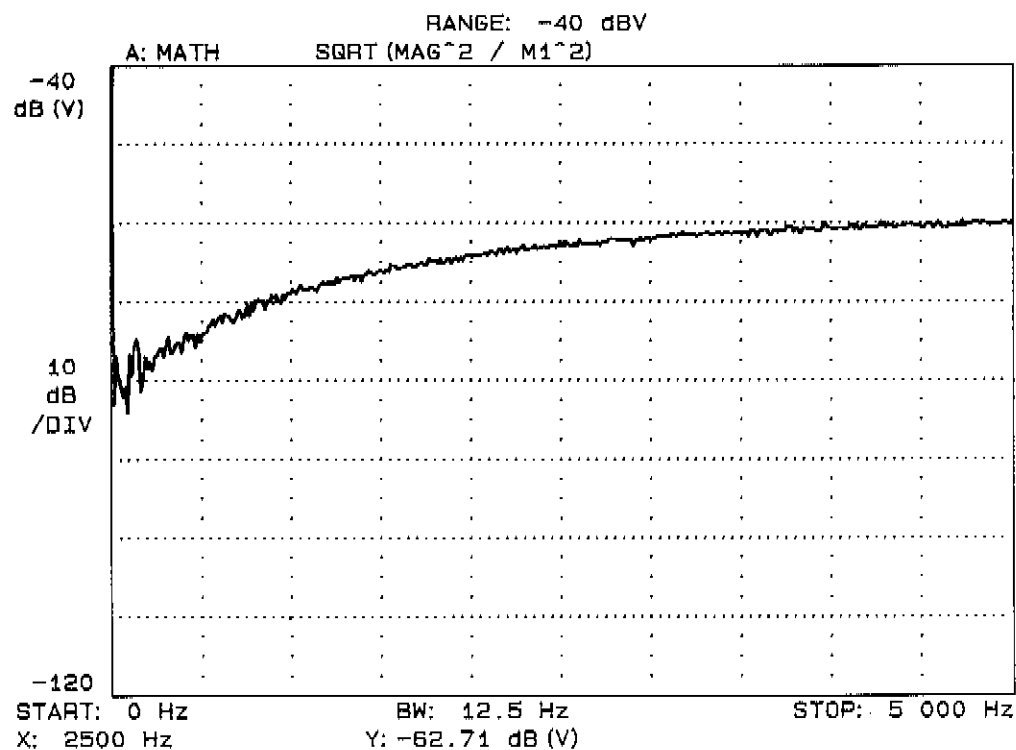

Figure 15. Typical Ground Isolation Adjustment
10. Adjust A3R132 as instructed. Refer to Figure 15 which shows a typical result after adjustment.